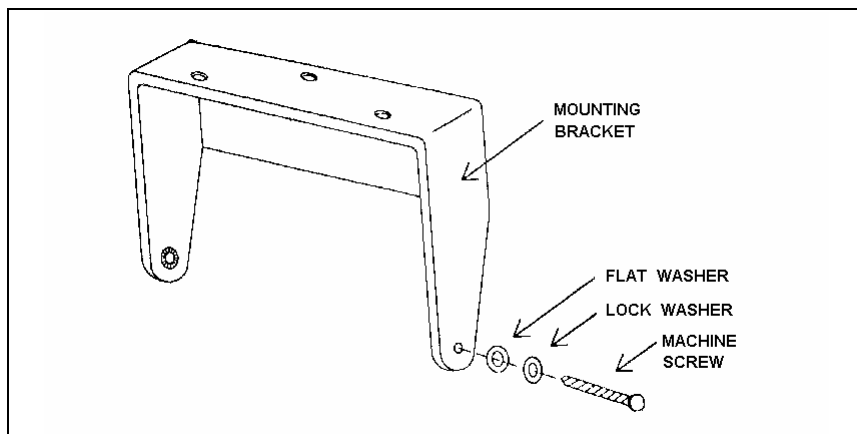

Figure 10-13: Speaker Mounting Bracket
1. Use the mounting bracket as a template for locating the mounting holes and mount the speaker as shown in Figure 10-13.